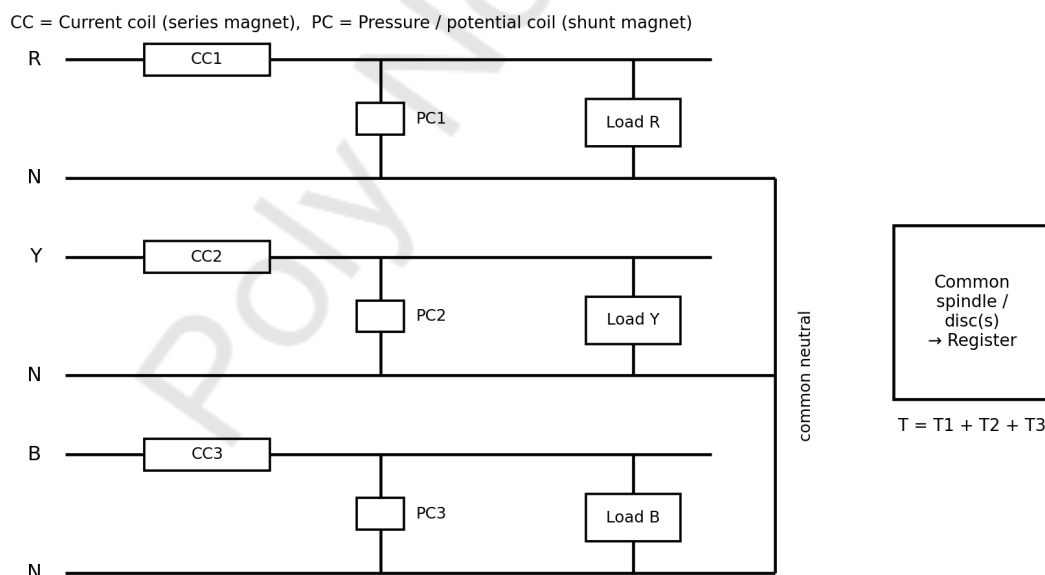

Fig. 4.4: Connection of a three-element (3-phase 4-wire) energy meter
- **Three-element meter (3-phase 4-wire):** three elements, one in each phase, measure the phase powers with respect to neutral. Total torque $\propto P_1 + P_2 + P_3$ (Fig. 4.4).